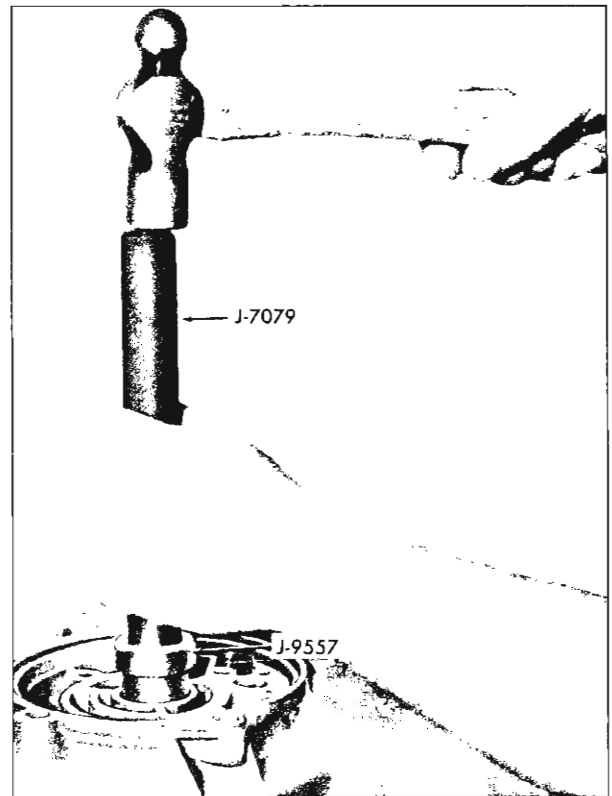

Fig. 33PG—Installing Case Rear Bushing
2. To install new bushing, drive or press bushing into place from rear of case using Tool J-9557 and handle J-7079 (fig. 33PG).